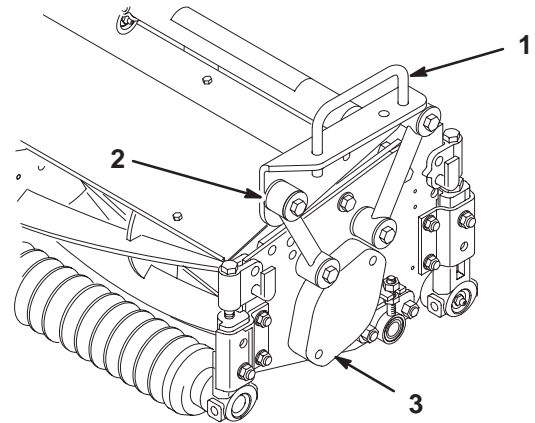
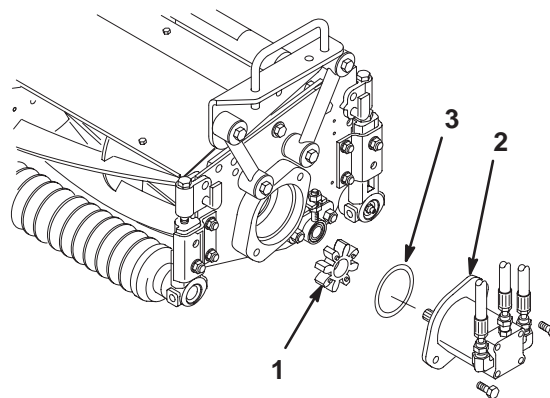

Figure 5
Figure 9
2. Position a carrier frame onto each cutting unit, aligning the mounting holes with the mounting links (Fig. 5).
3. Secure each mounting link to the carrier frame with a capscrew (3/8 x 2-1/4 in.), 2 flat washers, and a locknut, as shown in Figure 5. Position a washer on each side of the link when mounting. Torque to 31 ft.-lb. (42 N·m).
2. Remove the bearing housing cover (Fig. 5) from the inside end of the right-hand cutting unit. Install the cover and gasket (supplied with the cutting unit) on the outside end. Locate the spider coupling (Fig. 9) shipped in the bearing housing.
3. Insert the o-ring (supplied with the cutting unit) on the flange of the drive motor (Fig. 9).
4. Mount the motor and the spider coupling to the drive end of the cutting unit and secure them with 2 capscrews provided with the cutting unit (Fig. 9).